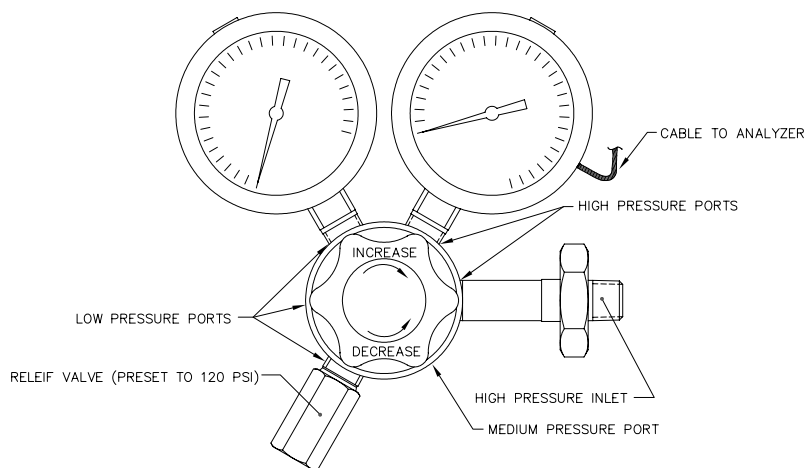

Figure 36 Carrier Gas Pressure Regulator with Relief Valve
- Carrier Regulator Assembly with Low Pressure Switch (see Figure 36)